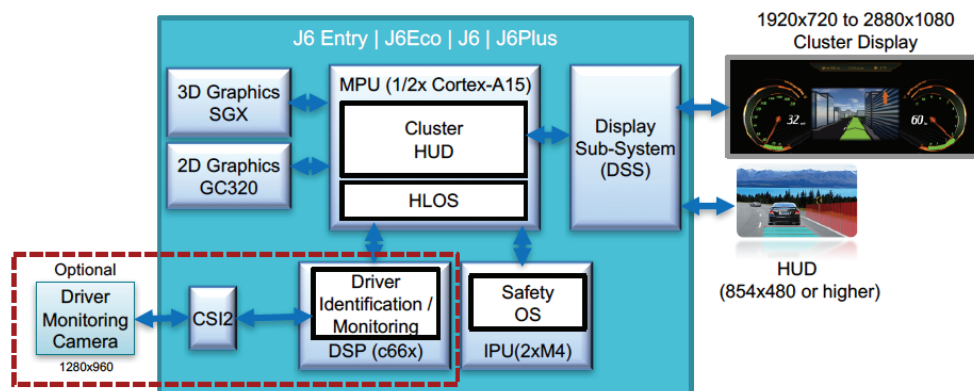

Figure 7. Jacinto 6 architecture to integrate driver monitoring and HUDs.
- Optional DSP and multimedia cores to integrate features such as driver monitoring and identification, and smartphone projection without significant increase in system cost. **Figure 7** shows a reference architecture,